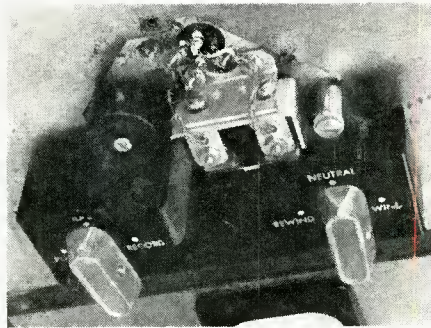
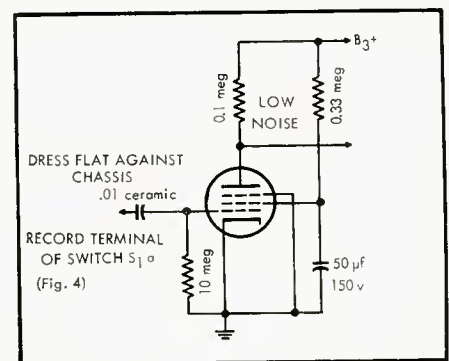

Fig. 13. Silicon-steel shield warps hum field near record-play head sufficiently to account for a hum reduction of approximately 6 db.
Fig. 14. Alternative input circuit—abandoned because of increased distortion.
mum. Figure 13 is a closeup of the shield employed. It consists of a thin piece of silicon steel about $\frac{3}{4}$ in. wide and 2 in. long after being bent double. The shield is alongside the playback head and clamps like a hairpin onto the bracket that holds the heads and guides the tape. The silicon steel is an I-plate from a power transformer—the same transformer that was converted into a bulk craser by removing the I-plates and facing the E plates one way.
12. *Input Grid Circuit.* The V_1 input grid circuit shown in Fig. 4 is different from the one originally contemplated which is shown in Fig. 14. The advantage of using the circuit in Fig. 14 is that the hum-bucking pot has greater effect, permitting another 2 or 3 db of hum reduction. The disadvantage which led to its rejection, however, is that it produces considerably more distortion. On the other hand, this difference in distortion may be considered academic by some, wherefore it is felt that the discarded circuit merits mention.
As pointed out in the section on specifications, the circuit of Fig. 4 can accommodate as much as 50 mv input with less than 1 per cent IM distortion and as much as 100 mv with only 1.5 per cent IM. However, the circuit of Fig. 13 produces 2 per cent IM at only 12 mv input, 3 per cent at 15 mv, 4 per cent at 20 mv, 8 per cent at 40 mv, and so on up. On the other hand, this circuit produces but 1.4 per cent IM at 10 mv, and at 5 mv distortion is down to 0.3 per cent. Thus, within the normal range of voltage output from a playback head, which is usually below 5 mv, the circuit of Fig. 14 would produce imperceptible distortion. Even on peaks, where amplifier IM distortion might reach 1.5 or 2 per cent, this amount would be relatively small compared with 8 per cent or more IM from the tape itself.
Yet, despite its potentialities for less hum, the circuit of Fig. 14 was abandoned because it crowds the margin of safety too much with respect to distortion. Although it can doubtless provide satisfactory results with regular tape, trouble may arise when using high-output tape, which results in greater voltage output from the head. Moreover, it is quite possible that continued advances in the art of tape manufacture will produce tapes with substantially higher output than now available.
In going to the input circuit of V_1 , careful consideration had to be given to the value of the cathode resistor, R_2 . Too high a value not only reduces gain but, more important, lessens the effect of the hum-bucking pot. As already indicated in the discussion concerning Fig. 14, hum-bucking effect was greatest when cathode resistance was smallest; i.e., zero.